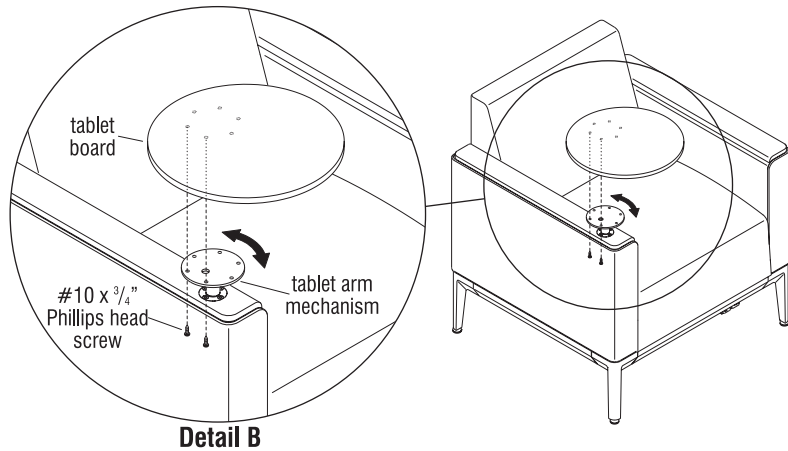

Figure 2
2. Then, using a power screwdriver with a long reach Phillips head bit, remove two #10 x 3/4" Phillips head screws. Rotate the tablet board assembly, aligning two more screws with the edge of the arm frame and remove those screws. Continue until all six screws are removed from the tablet board (Figure 2 & Detail B).
3. Next, locate the replacement tablet board and align the six pre-drilled holes on the underside of the surface with the six mounting holes in the tablet arm mechanism (Figure 2).
4. Rotate the tablet arm mechanism so two mounting holes are aligned with the outer edge of the arm frame. Then, using two previously removed #10 x 3/4" Phillips head screws, attach the tablet board to the tablet arm mechanism through the two holes located at the outer edge of the arm frame as illustrated (Figure 2).
5. Rotate the tablet assembly while continuing to align two mounting holes with the outer edge of the arm frame and install screws until all six #10 x 3/4" Phillips head screws are installed (Figure 2).